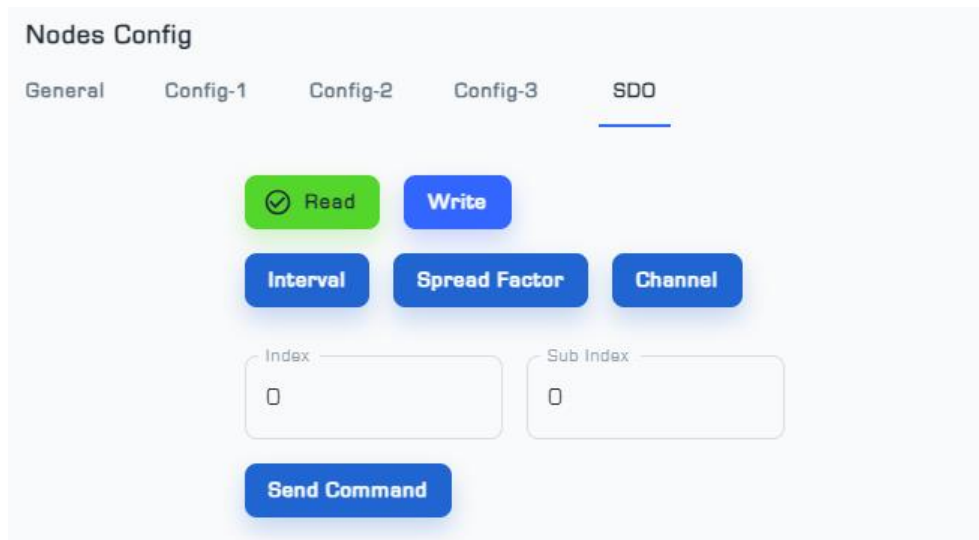

Figure 7: SDO Menu from Nodes Setting page
- The SDO menu is used to change the parameters of Interval 1, Spread Factor, and Channel2 (Figure 7).